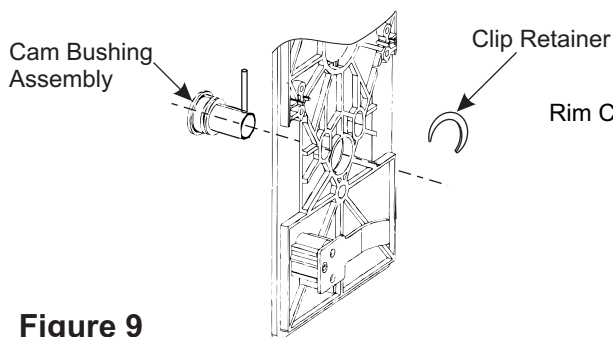
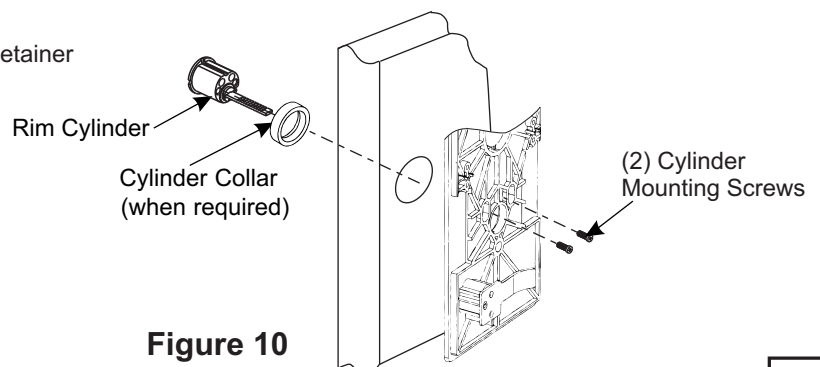

Figure 9
Figure 10
1. If not pre-assembled insert Cam Bushing Assembly through mounting base from the back side (See Figure 9) and install retainer clip onto exposed groove on bushing.
2. Orient cam bushing assembly so that the long end of the pin is vertical (UP) in the 12 o'clock position.
4. With mounting base securely attached to door, insert cylinder and ring through prep on opposite side of door, fasten securely with (2) cylinder screws inserted through slotted holes in the mounting base (See Figure 10).